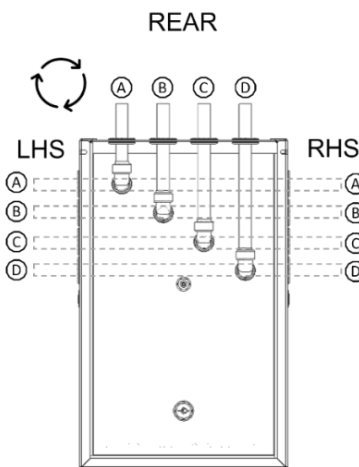
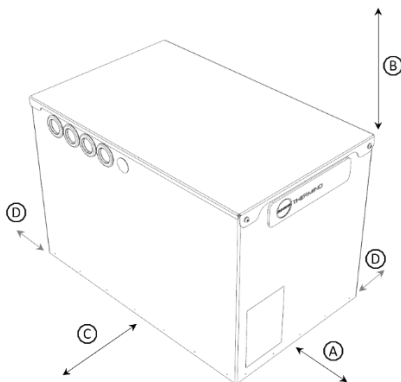

Figure 3: Heat Battery from Above showing the 3 possible tube exits.
Figure 10: Minimum Installation clearance
The heat is transferred between the PCM and the Primary and Secondary circuits using an integrated heat exchanger inside the cell. The direction of flow through the ports is key to the operation & control of the Heat Battery. See Figure 3 & Table 3 for details.
Table 3: Reference Figure 3 Heat Battery entry/exits
- Assess the location of installation, considering spatial requirements, clearances, cable and hydronic tube runs. See Figure 3 & Figure 10.
- Identify which side you wish to make a hydronic tube and cable entries (see Figure 3 in Section 2.3).
Allow for space around the Heat Battery as per Figure 10 & Table 9 below.
Table 9: Reference Figure 10: Minimum Installation clearances